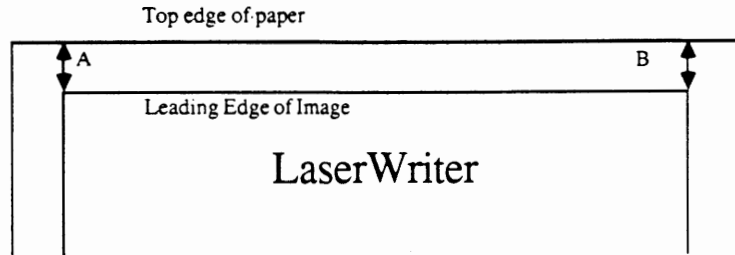

FIGURE 3-5
2. Horizontal line specifications: Measure the distance from the top left and right corners of the image to the top edge of the paper (Figure 3-5). The difference between the two measurements (left and right) should be no more than 1 millimeter.